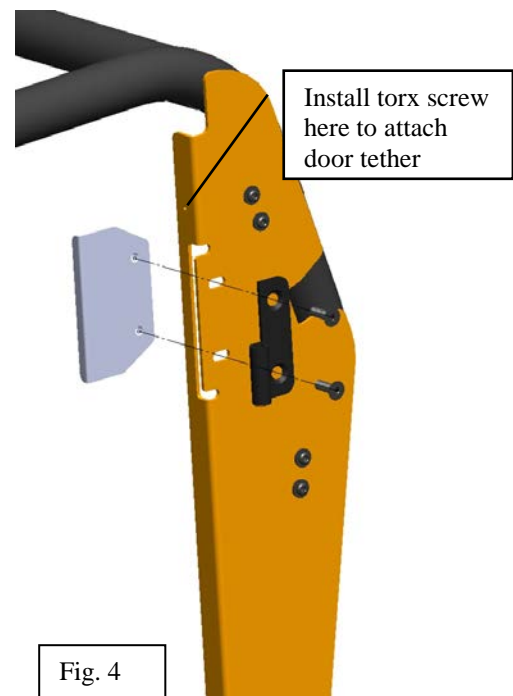

Fig. 4
4. Refer to Fig. 4. Align a hinge plate and driver female hinge with the driver closeout bracket. Fasten using (2) M8 x 30mm screws and (2) M8 fender washers.
6. After door is installed, fasten a torx screw at location shown in Fig. 4 to attach the door tether on the door to the driver closeout panel.